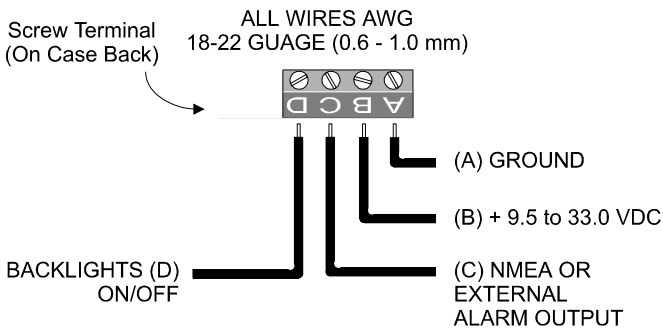

Figure 2
- Carefully check all your wiring against those shown in Figures 2 and 3. If everything is wired correctly you can mount the V55 in the instrument hole. Be sure the bulkhead gasket is in place and use only finger tension to tighten the bracket hold-down nuts. *Do not overtighten the bracket or you may damage the case - do not use tools to tighten the nuts.*
- Bring the wires out the mounting hole and make the connections to the screw terminal on the instrument case back as shown in Figure 2 and Figure 3.